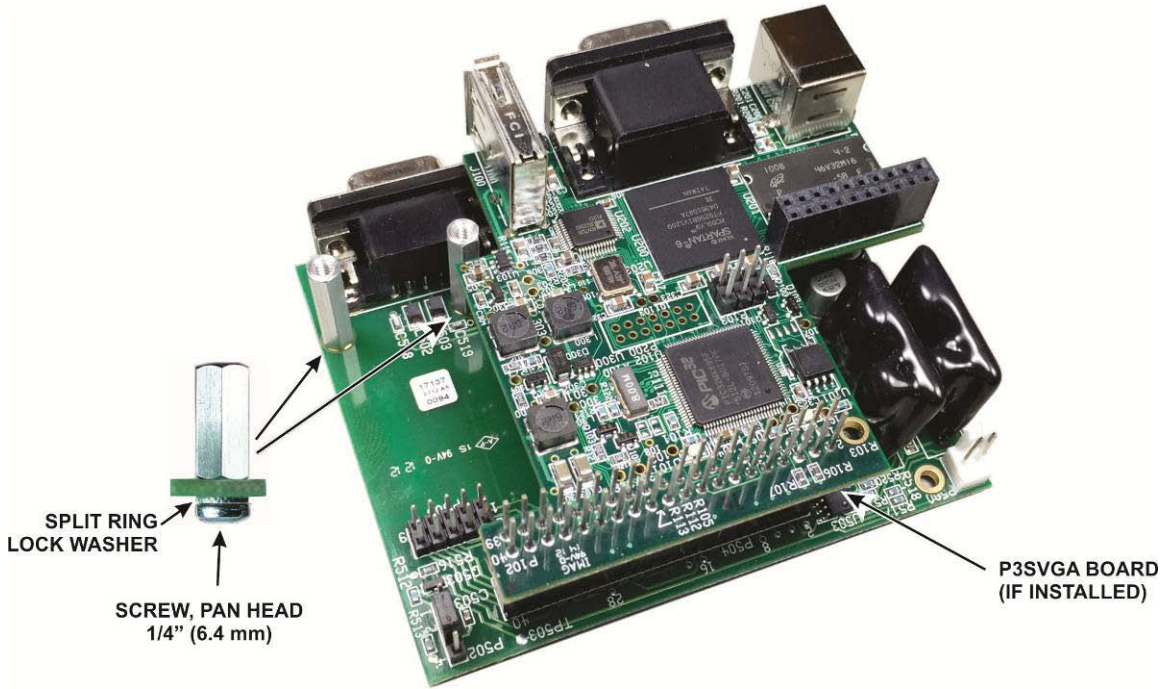

Figure 16. Mounting Tx Monitor Standoffs on the I/O Board.
- Mount the two standoffs supplied with the option on the I/O board as shown in Figure 16.